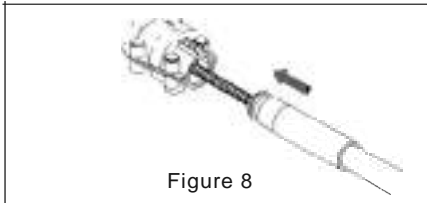

Figure 8
**STEP 2.** Remove protective sleeve from cable end, making sure that dirt does not get onto the lubricated cable end. Feed cable end into LOWER helm entry spigot until it contacts the internal gear, then turn steering wheel counterclockwise to draw cable fully into the helm (see Figure 8). Continue turning wheel until end fitting of cable is entered into the entry spigot, and wheel cannot be turned further. During this you may hear a click as the backing mechanism engages. Turn steering wheel fully in the other direction until it cannot be turned any further, and check that cable end fitting is retained inside the entry spigot.